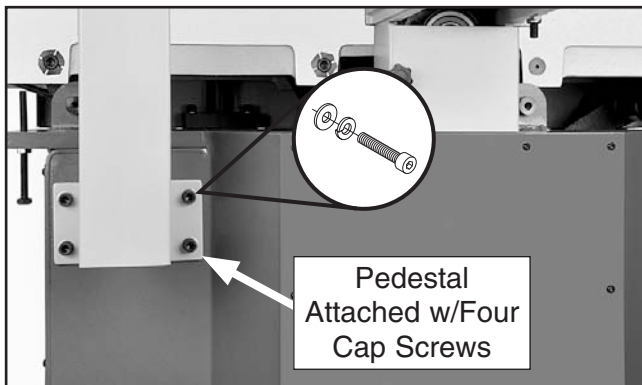

Figure 10. Control panel pedestal mounted in upright position.
2. Mount the pedestal in the upright position using the four M10-1.5 x 25 cap screws, 10mm lock washers, and 10mm flat washers (see **Figure 10**). Use an 8mm hex wrench to tighten the cap screws.